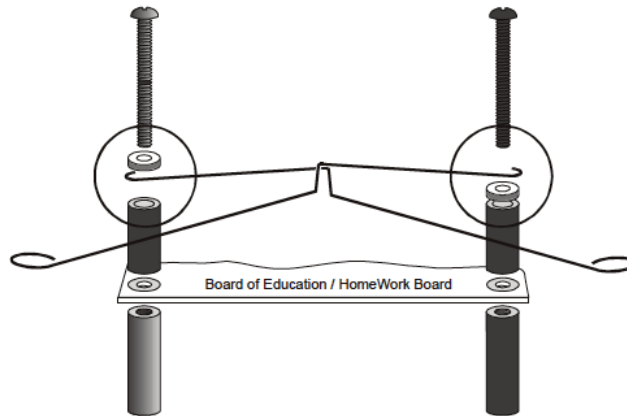

Figure 16: How to assemble the whiskers on the Boe-Bot.
- Use Figure 16 along with steps 3-5 to assemble your whiskers.